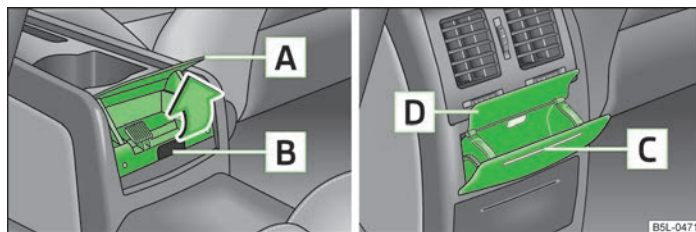

Fig. 68 Rear ashtray - low centre console/high centre console
- Grasp the ashtray cover at the lower edge **A** and fold it open in the direction of arrow » Fig. 68.
- Grasp the ashtray at the handle **B** » Fig. 68 and remove from above.
- Press on the top part of the ashtray cover in area **C** » Fig. 68.
- Grasp the ash tray insert at the cover **D** » Fig. 68 and remove.